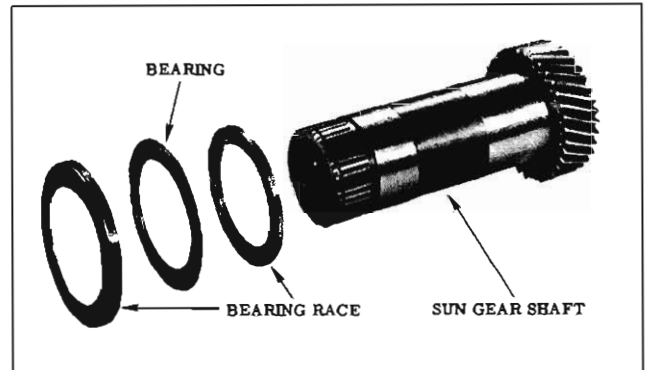

Fig. 6-95 Bearing and Races
15. Install thick bearing race, thrust bearing and the thin cupped bearing race on front sun gear and shaft assembly. (Fig. 6-95)